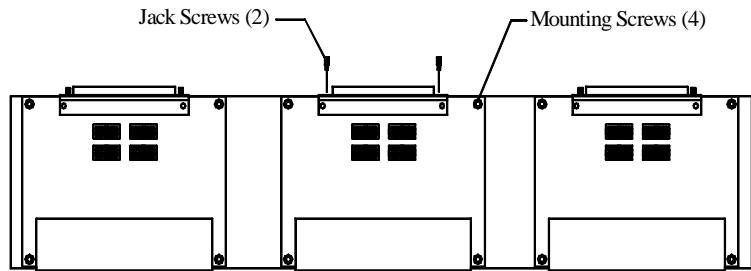

Figure 11. *Installing or Removing an IM-16*
2. Remove the four phillips mounting screws and the two jack-screws securing the IM-16 to the RIM chassis and remove the module. (Figure 11).
5. Attach the new IM-16 to the desired slot of the RIM chassis with the four mounting phillips screws and two jackscrews that came in the shipping box. Refer to Figure 11. The jack-screws require a 3/16 inch nutdriver.